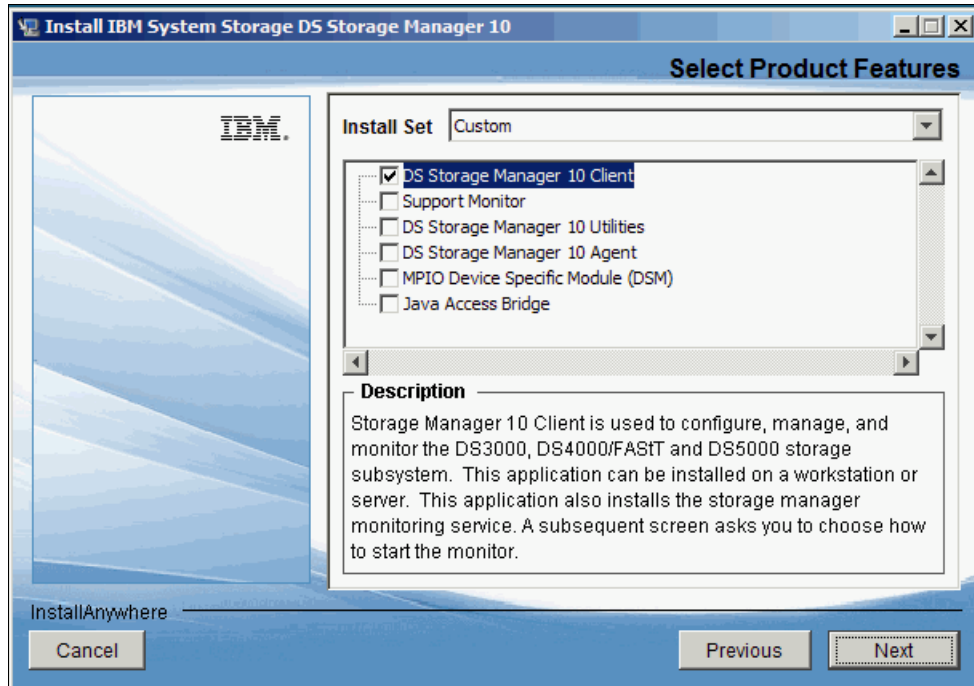

Figure 5-8 Select product features to install
8. In Figure 5-8 on page 137, select **Install Set** from the drop-down menu. The options in the drop-down menu are same as shown in Figure 5-7. When you select an Install Set, you can see what components will be installed and modify them if you desire. See 2.6, “IBM System Storage DS Storage Manager” on page 22 for a description of each component. Our example shows the client selection because the system being installed is for management purposes and the other components are not required for it.